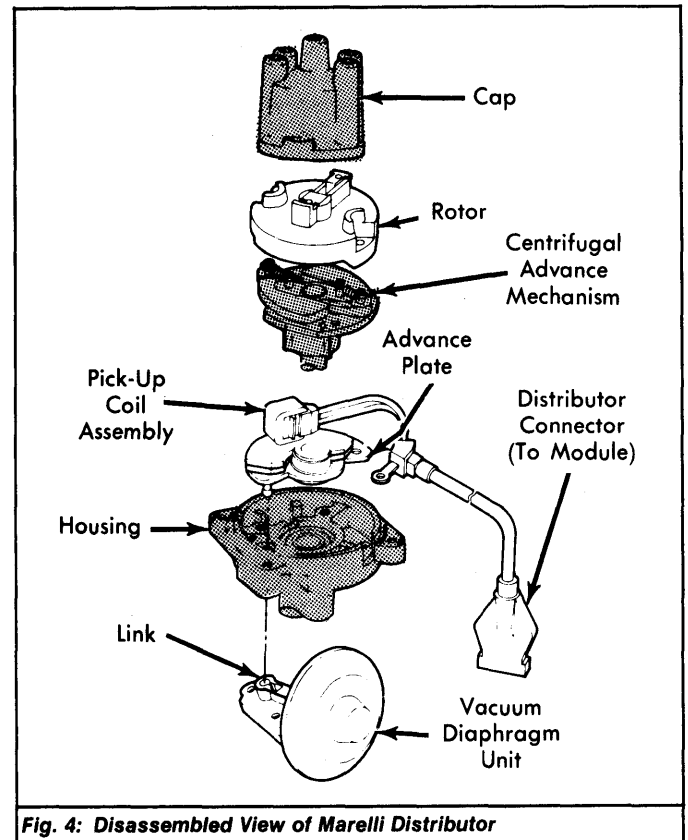

Fig. 4: Disassembled View of Marelli Distributor
1) Remove distributor cap and rotor. See Fig. 4. Remove pin securing pinion gear and lift shaft and centrifugal advance mechanism (with integral reluctor) from housing.